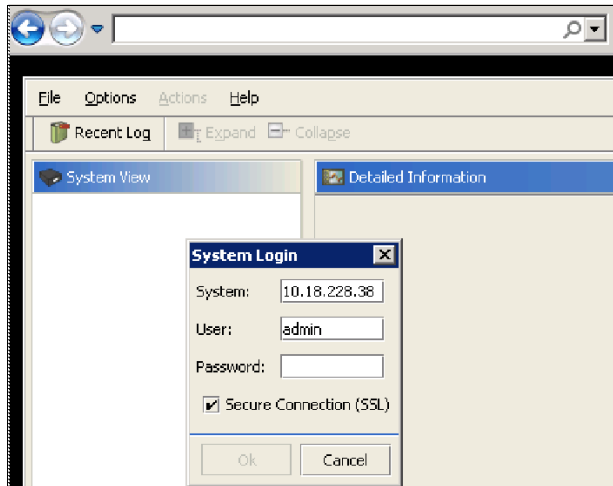

Figure 5-1 Accessing IBM FlashSystem
1. To access the IBM FlashSystem remotely, as shown in Figure 5-1 on page 171, use the browser and provide the required details.